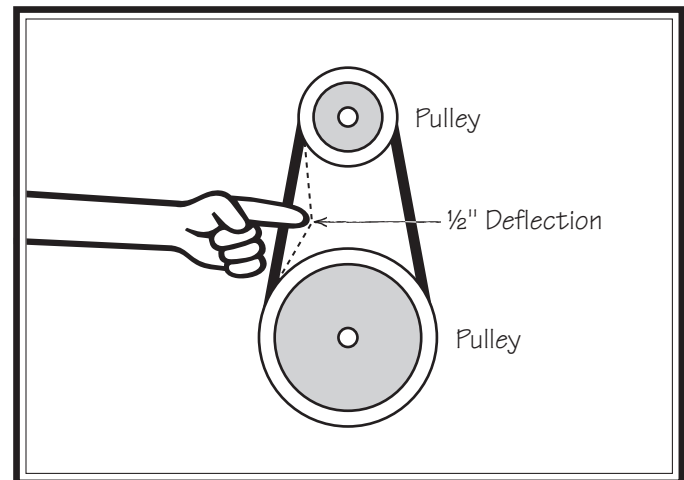

Figure 61. Checking V-belt tension.
3. Lower motor and adjust belt tension with tension rod adjustment nuts so there is approximately 1/2" deflection when belt is pushed with moderate pressure, as shown in **Figure 61**.